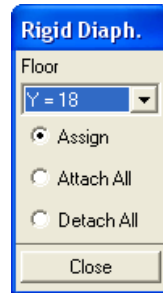

Figure 5-22 Rigid Diaphragm dialog box
- From the **Assign** menu, choose **Rigid Diaphragms**. The modeless dialog box of Figure 5-22 appears. To end rigid diaphragm assignment, choose the CLOSE button.